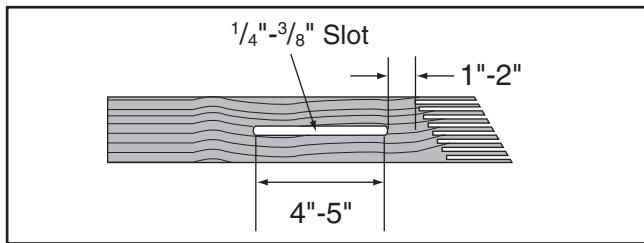

Figure 80. Slot routed in featherboard.
4. Rout a $\frac{1}{4}$ "– $\frac{3}{8}$ " wide slot 4"–5" long in the workpiece and 1"–2" from the short end of the featherboard (see **Figure 80**).